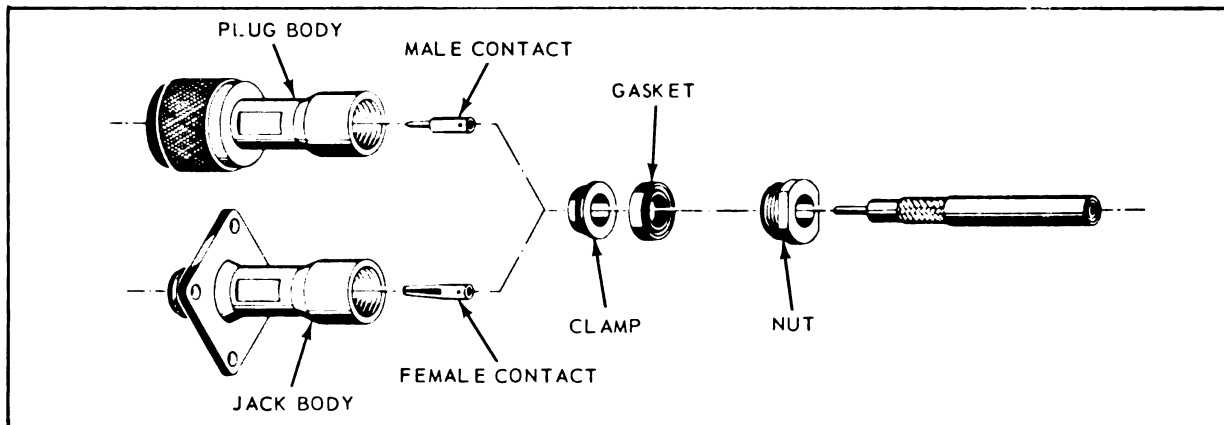

Figure 4-21. Improved HN Connectors - Exploded View
a. Improved Version (See figure 4-21)- consists of a plug or jack body assembled to coaxial cable with nut, gasket and braid clamp. Plug UG-59E/U and Jack UG-60E/U are typical of this version.
a. Disassemble nut, grooved gasket and braid clamp from plug or jack body. See figure 4-21.